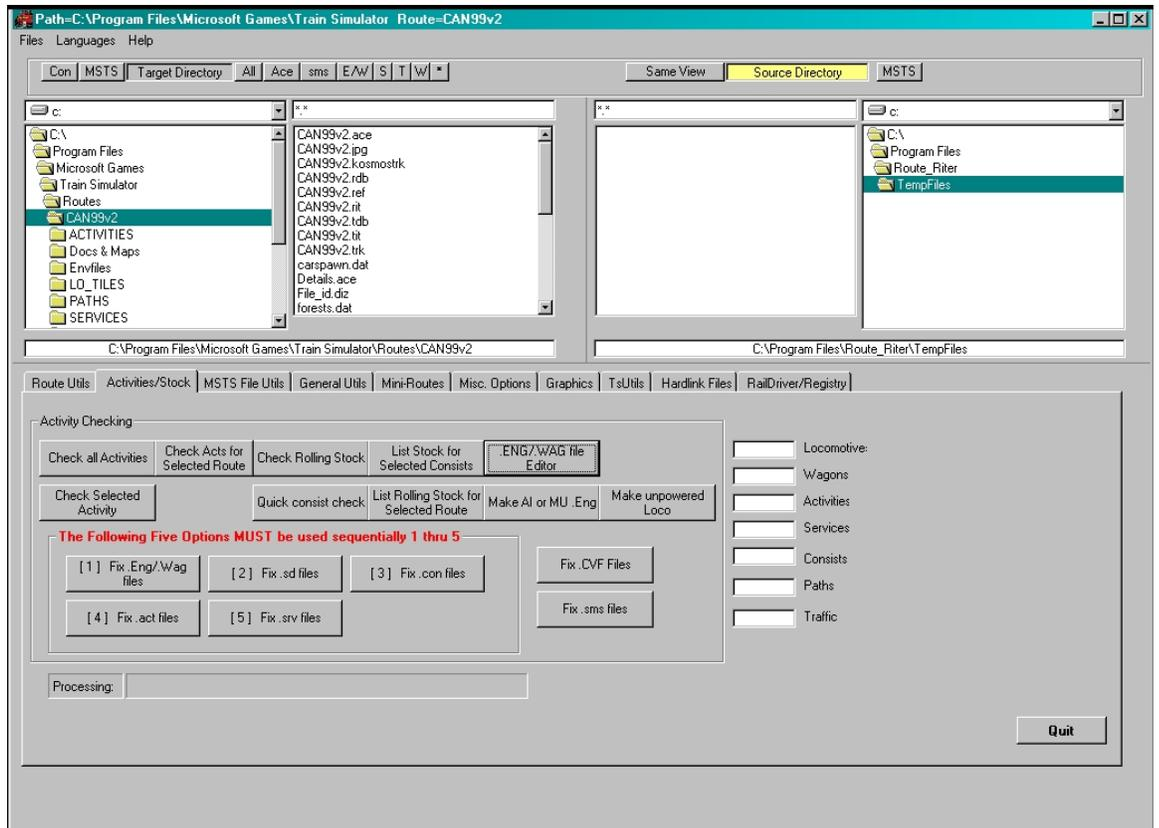

Figure 3
2. Open **Route_Riter** and left-click the "Activities/Stock" tab. The window in Figure 3 should be what you see.